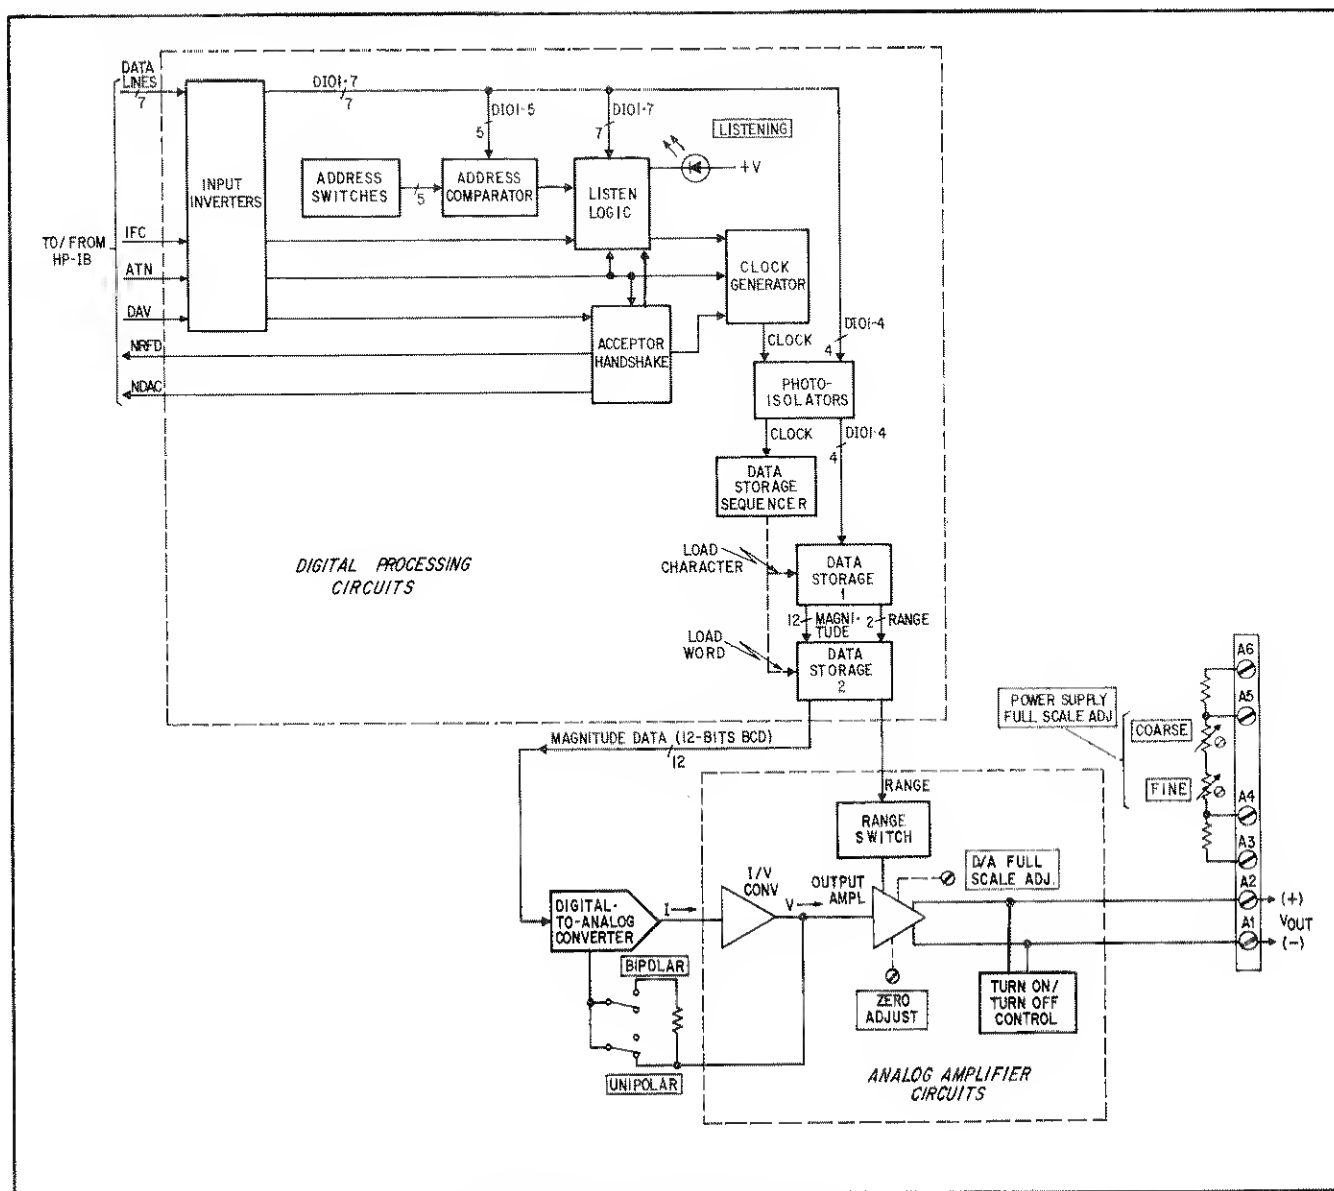

Figure 4-1. 59501A Block Diagram
4.2 The 59501A provides a unipolar or bipolar output voltage in response to digital data received on the HP-IB. As stated previously, the 59501A can be used (in conjunction with an HP-IB controller) as a power supply programmer or as a low level dc signal source. Figure 4-1 is a block diagram illustrating the major circuits within the 59501A. For simplification, the 59501A's bias voltage supplies and
power-on preset circuit are not shown on the block diagram. The 59501A's circuits are shown in their entirety on the main schematic (Figure 7.3 at the rear of the manual). The functional circuit designations are the same on both the block diagram and the schematic so that the two diagrams can be correlated. As shown in Figure 4-1, the major circuits of the 59501A consist of digital processing circuits, a digital-to-analog converter, and analog amplifier circuits.
4-6 When ATN is true and the 59501A's listen address is placed on data lines DI01-DI07, the 59501A is enabled to function as a "listener". As shown in Figure 4-1, the data lines are applied to the address comparator and to the listen logic. The address comparator decodes the 59501A's listen address when the levels on lines DI01-DI05 match the address switch settings on the rear of the 59501A. In this case, the address switches are set to "&" (one of 31 possible address codes) which distinguishes the 59501A from the other devices connected to the bus. Thus, when the 59501A's listen address is decoded and ATN is true (command mode), the listen logic is set. For this condition, the LISTENING indicator is turned-on and the clock generator is enabled allowing the 59501A to process subsequent data words received on the bus. If the ATN line is true and an unlisten command "?" is received, the listen logic is reset. For this condition, the LISTENING indicator is turned off and the clock generator is disabled inhibiting the 59501A from processing data words. Note that the IFC signal also resets the listen logic. The IFC signal is used by the controller to terminate activity on the HP-IB.